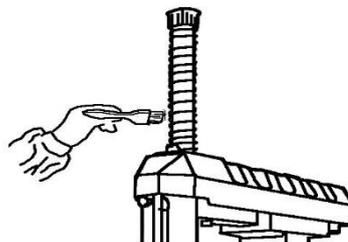

Fig 13
2. Clean the mounting bar to ensure smooth operation. (Fig. 13)